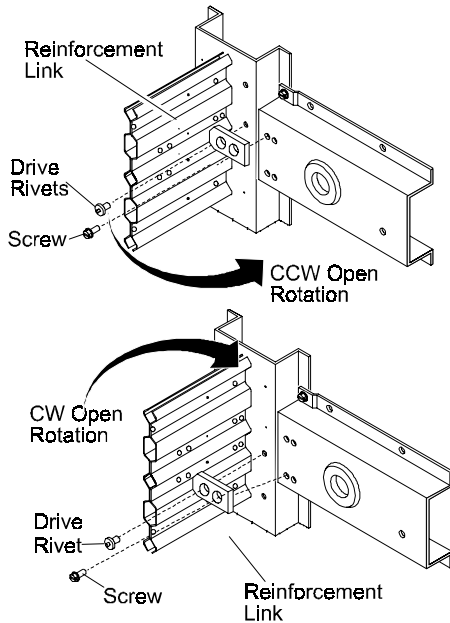

Figure 13: Installing Reinforcement Link
2. Install the reinforcement link to the universal mounting bracket with one No. 12-24 x 1/2 inch thread-forming, hex-head screw, as shown in Figure 13. Do not tighten.
6. Reposition the reinforcement link and insert the drive rivet, as shown in Figure 13.